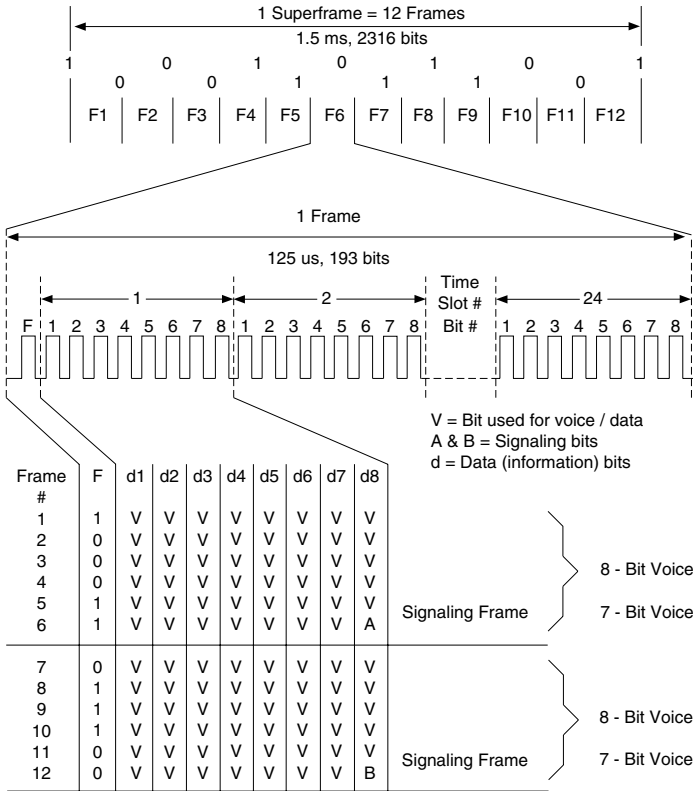

Figure C-1
Figure C-1 shows the Superframe Format (SF). SF framing, also known as D4 framing and the M24 multiplexer format, defines a group of 12 frames as a superframe. The 193rd bit of each frame is referred to as the multiframe alignment bit or F bit. T1 receiving equipment uses the F bit to identify the beginning of a superframe as well as the position of each frame in the superframe.